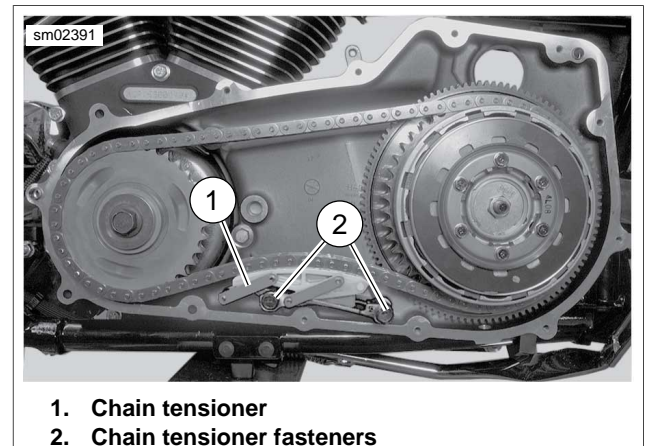

Figure 6-18. Chain Tensioner
15. See Figure 6-18. Install primary chain tensioner (1) into place. Install chain tensioner fasteners (2) and tighten to 15-19 ft-lbs (20.3-25.8 Nm). Remove cable tie.